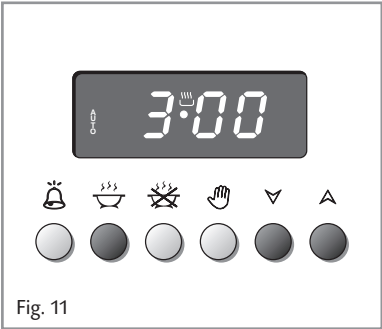

Fig. 11
- 1. Set the length of the cooking period by pushing the  button and the  button to increase, or  to decrease if you have passed the desired time (fig. 11). The AUTO and the  symbol will illuminate.